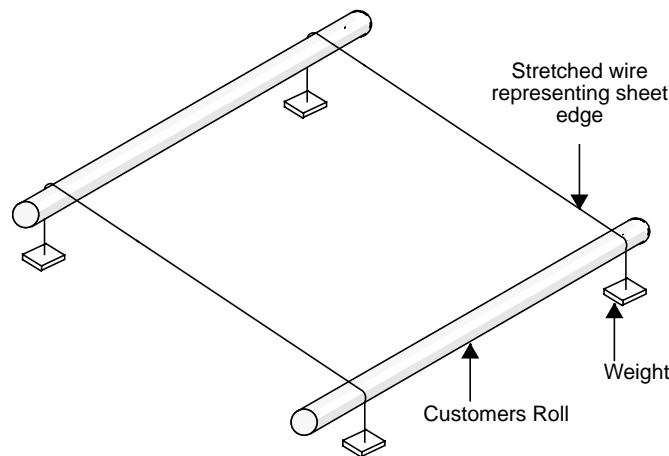

Figure 3-12 Simulating the Process Pass Line
- Thread two parallel lengths of wire over the rolls onto which the process is being guided. See Figure 3-12.